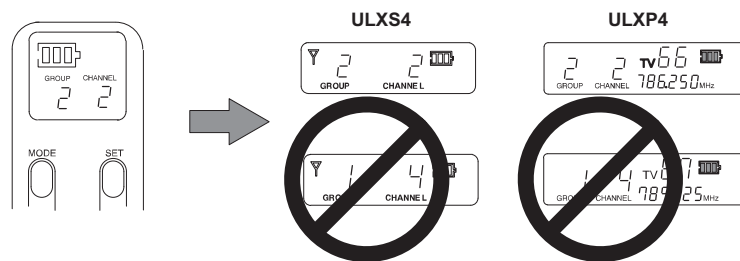

FIGURE 30
7. Make sure the transmitter Group and Channel settings match the receiver Group and Channel settings, as shown in Figure 30. If using the Bodypack transmitter, clip it to your belt, waistband, or guitar strap.